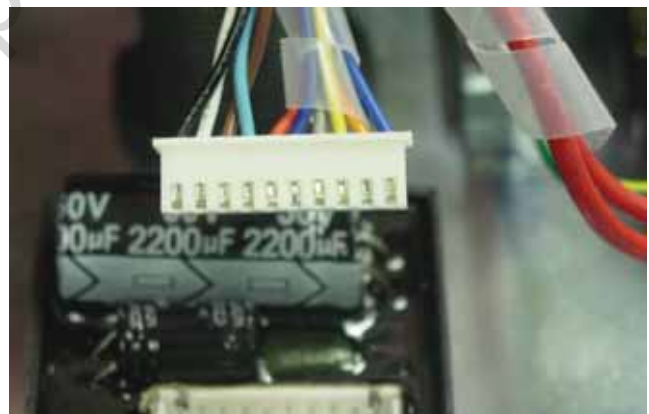

Figure 53
2. Disconnect the ten-pin connector (Figure 53).